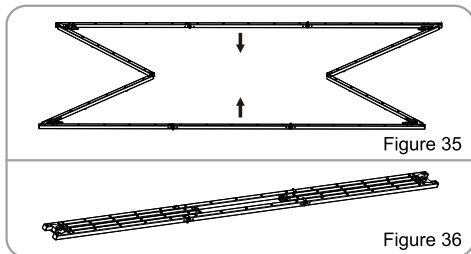

Figure 35
6. Fold the main frame as arrows indicate ( Figure 35 - 36 ).